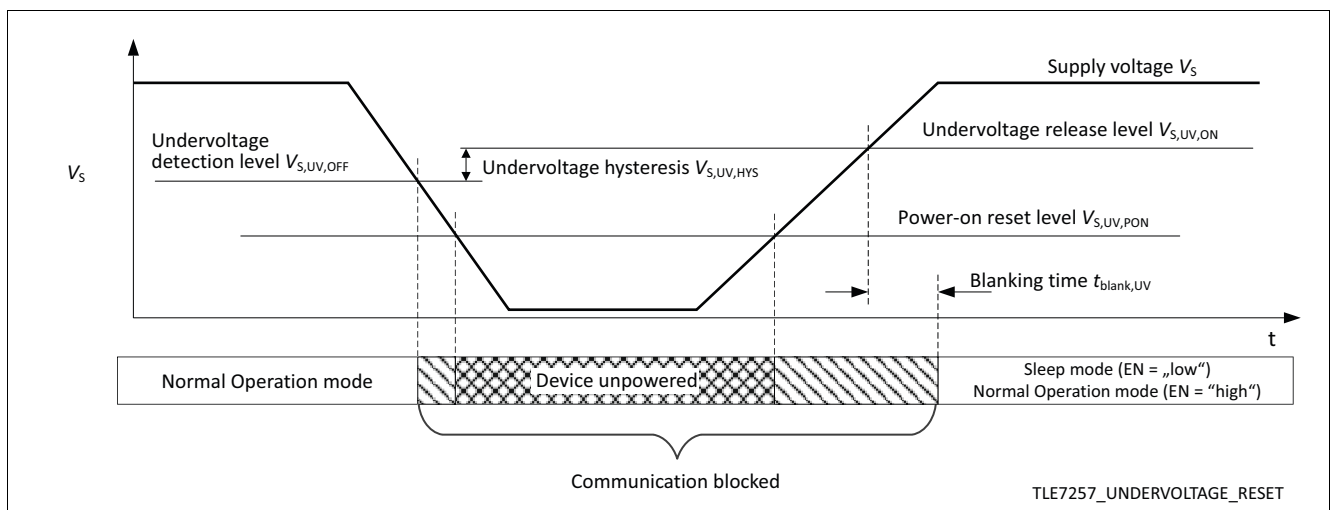

Figure 12 Undervoltage detection and power-on reset
- In case the V_S power supply drops down below the power-on reset level $V_{S,UV,PON}$ the TLE7257 blocks the communication between the LIN bus and the microcontroller, and also changes the operation mode to Sleep mode after V_S supply recovery. The power-on reset level is active in all operation modes. See Figure 12.